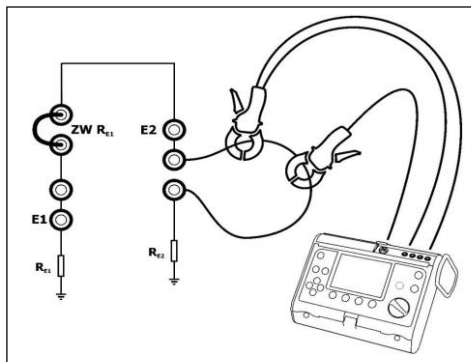

Fig. 11. Connection of the meter.
- connect the earth resistance meter (MRU-XXX) to the sockets in accordance with Figure 11,